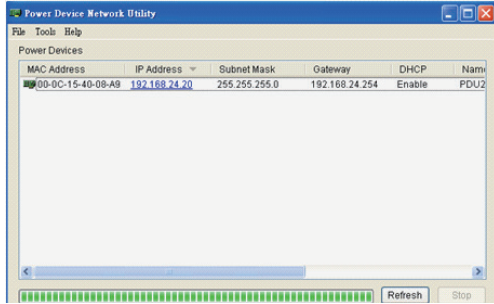

Figure 6. Equipment List
Step 1. Select the appropriate PDU device from the Equipment List (Figure 6).